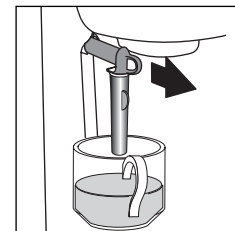

fig. 20
5. Pull milk frother forwards and turn it to the left (Fig. 20): during this operation, avoid touching the boiler outlet, as it will be hot. Then position the container with the milk underneath the milk frother.